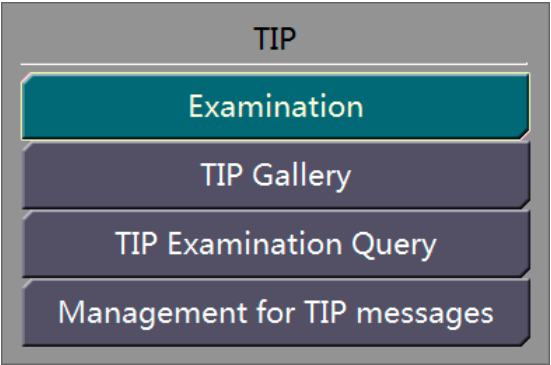
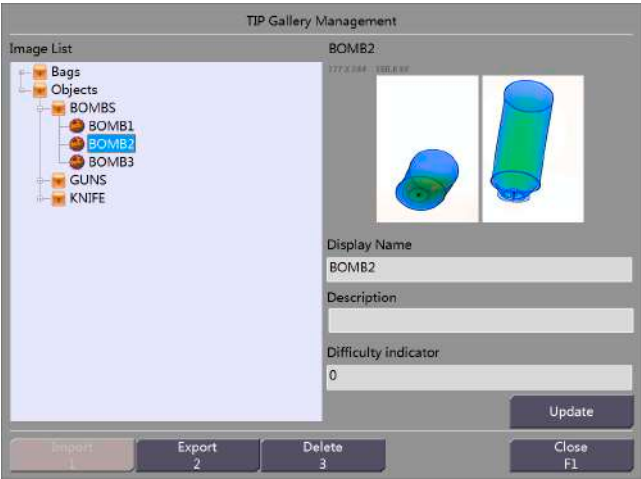
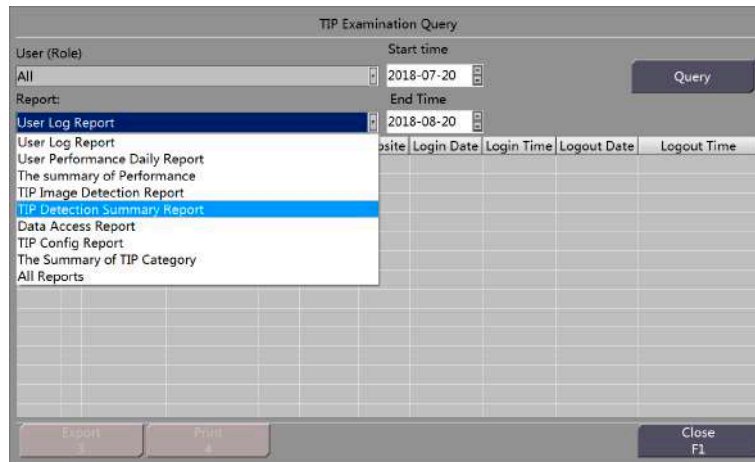
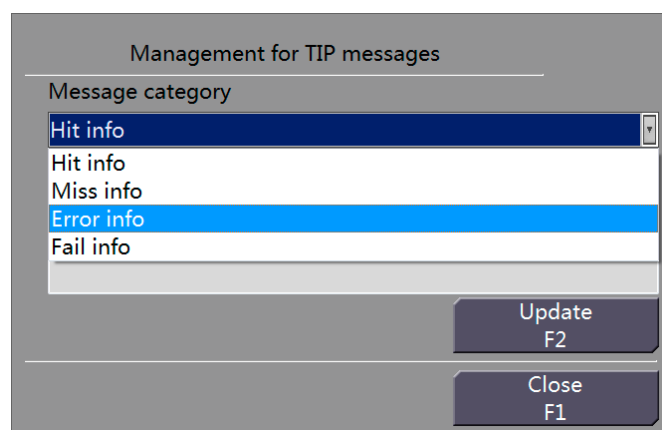

Figure 16-1 TIP Interface
Figure 16-10 TIP Gallery Management Interface
Figure 16-11 TIP Examination Querying Interface
Figure 16-12 TIP Prompt Information Management
Step 1 Choose TIP from the main menu in Figure 13-1 to display the TIP menu interface, as shown in Figure 16-1.
On the interface shown in Figure 16-1, choose TIP Gallery to display the TIP Gallery Management interface, as shown in Figure 16-10. There are two types of TIP images: inspected items (BAG) and individual objects (OBJECT). Each type is further divided into sub-types, such as BOMBS, GUNS, and KNIFE. Images are displayed under sub-types such as BAGS. Select an image, and its preview and name are displayed on the right part.
This function is used to provide multiple user-specific reports, including: TIP login query, daily detail report, decision conclusion summary, decision conclusion detail, TIP decision summary report, TIP data operation report, examination item operation log, TIP login query, TIP category count log, as shown in Figure 16-11. This function is used to query user-specific TIP examination logs generated in the specified period. It provides information about operators' vigilance and ability to identify images.
Step 1 On the interface shown in Figure 16-1, choose TIP Examination Query to display the TIP Examination Query interface, as shown in Figure 16-11.
Step 1 On the interface shown in Figure 16-1, choose TIP prompt information management to display the TIP Prompt Information Management interface, as shown in Figure 16-12. There are four types of prompt information: identification information, missed information, error identification information and insertion failure information.